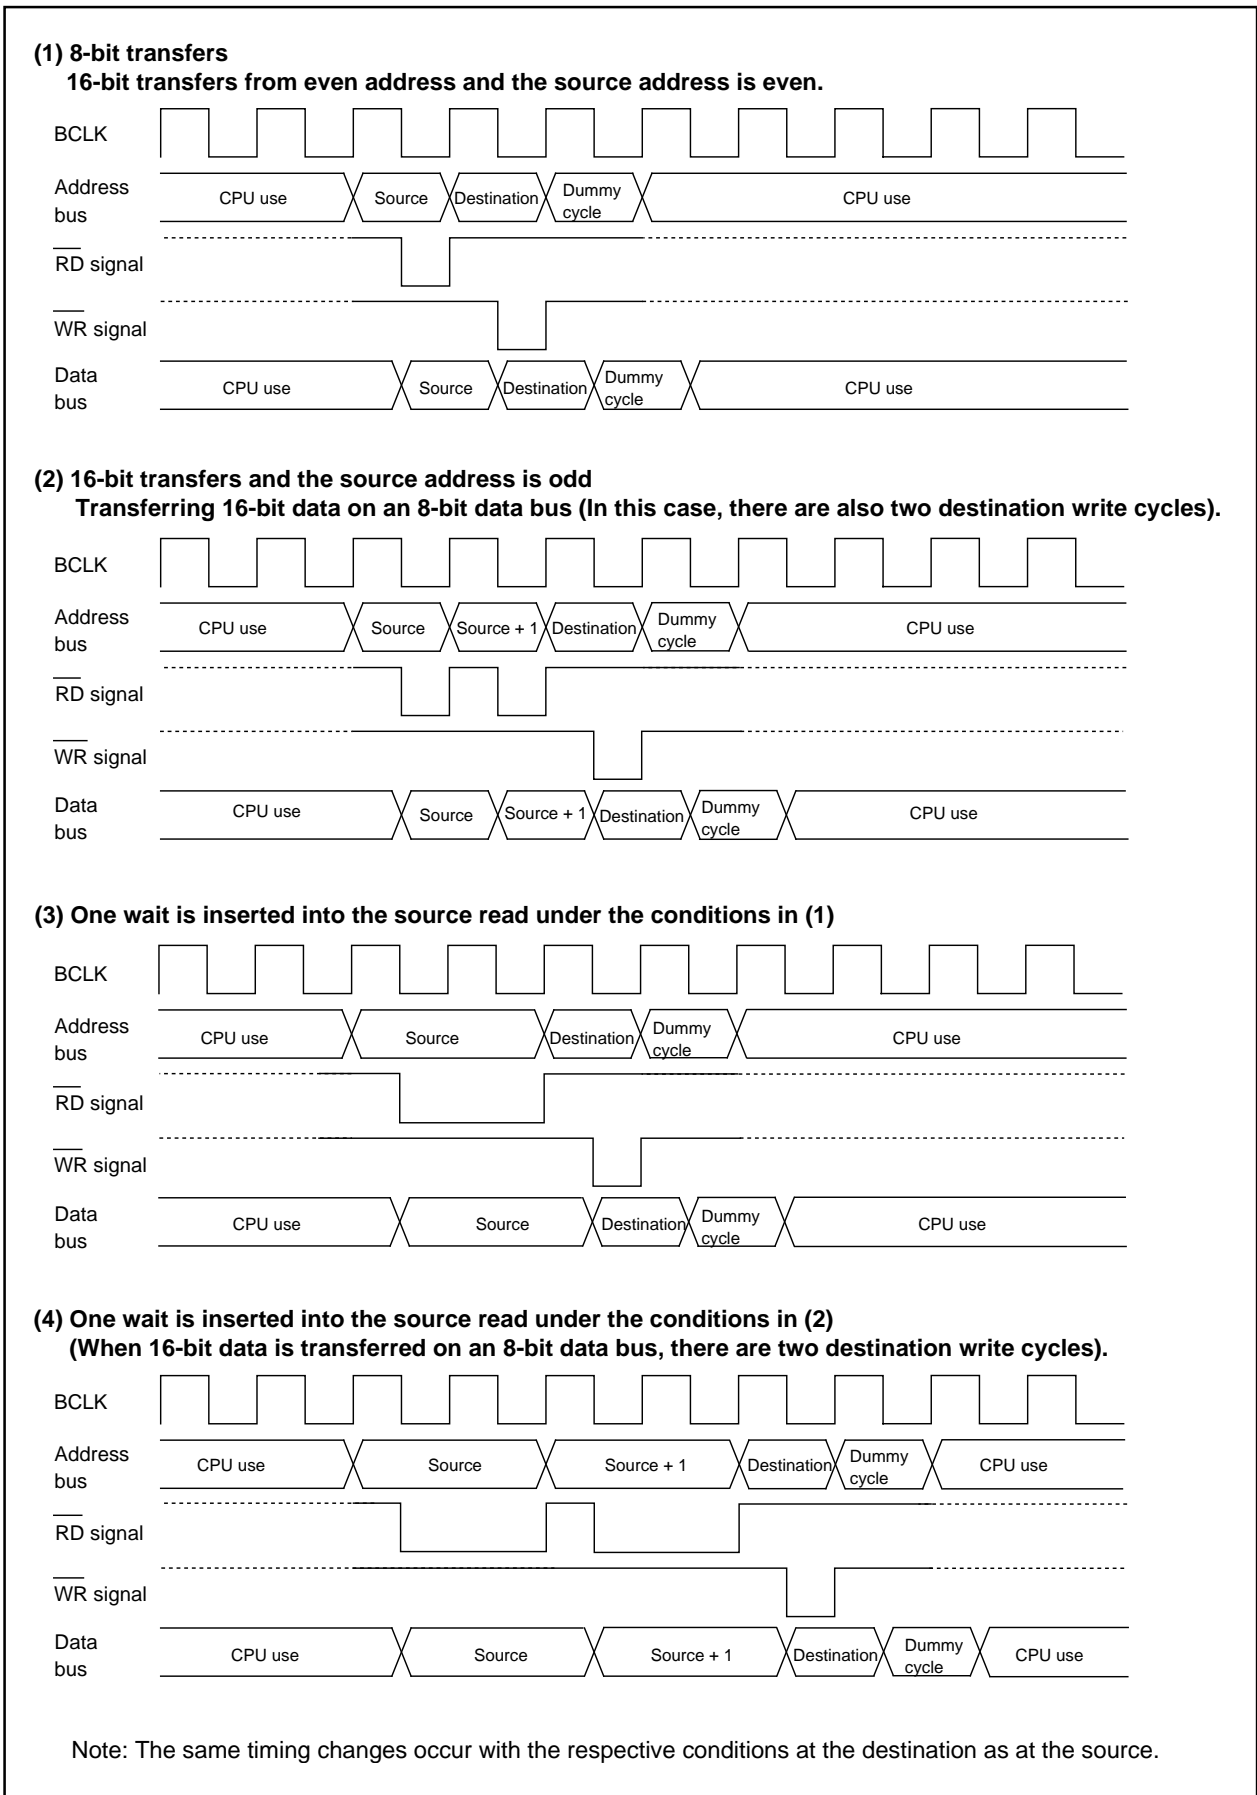

Fig.EC-5 Example of the transfer cycles for a source read
Fig.EC-5 shows the example of the transfer cycles for a source read. For convenience, the destination write cycle is shown as one cycle and the source read cycles for the different conditions are shown. In reality, the destination write cycle is subject to the same conditions as the source read cycle, with the transfer cycle changing accordingly. When calculating the transfer cycle, remember to apply the respective conditions to both the destination write cycle and the source read cycle. For example (2) in Fig.EC-5, if data are being transferred in 16-bit units on an 8-bit bus, two bus cycles are required for both the source read cycle and the destination write cycle.